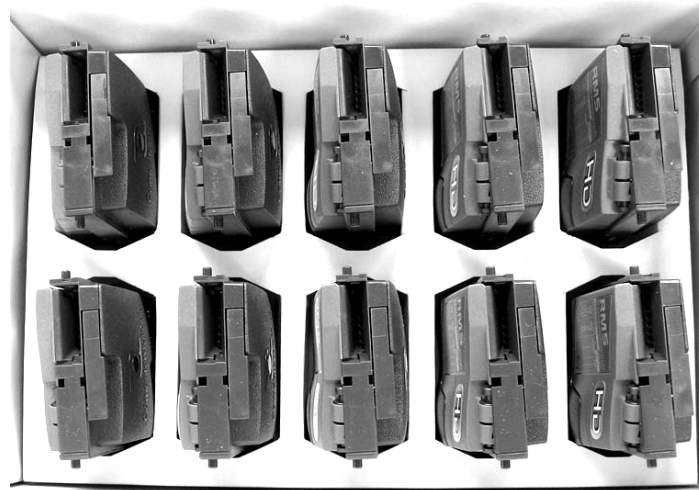

Fig. 2
The equipped machine is delivered following commissioning in two types of packaging according to the number of RM5 HD coin validators required: a multiple-unit (20) packaging (Fig.2) or a single-unit packaging.